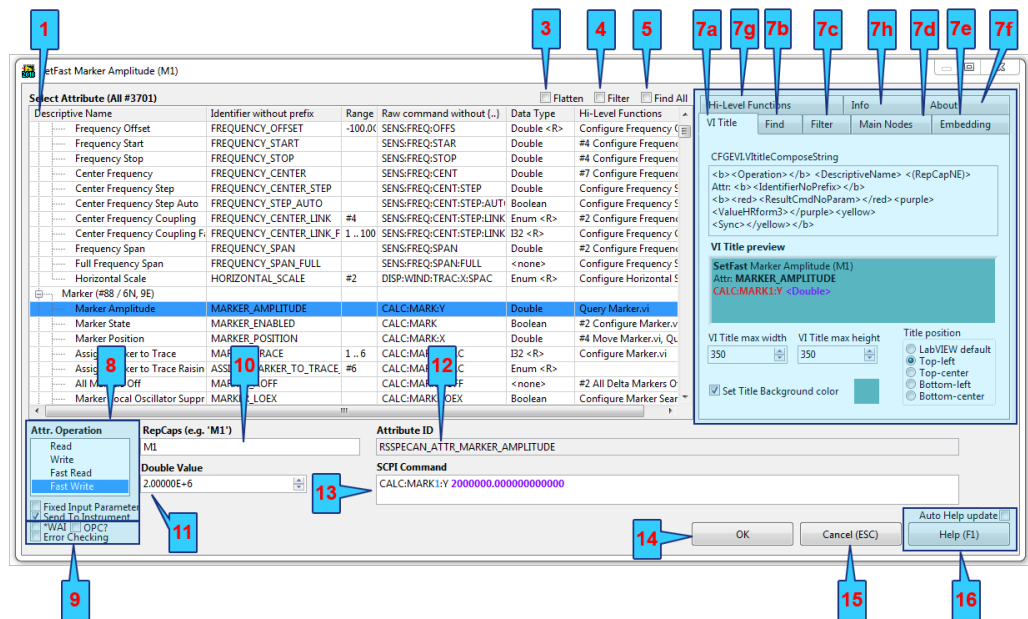

Fig. 5-6: Express VI Configuration panel.
**Find tab** allows you to find an attribute based on **Find Specification** control. Searching of the next item fulfilling the criteria can be done with **Find Next** button or **F3**, or **ENTER** button when focused on one of the string fields. You can see all positive search results in Select Attribute control when checking **5 - Find All** checkbox (figure 5-6). Use the shortcuts e.g. **CTRL+G**, **CTRL+H**, **CTRL+F**, to quickly focus on the string fields.
**Filter tab** allows to only see the attributes in Select Attribute control that fulfill the **Filter Specification**. Main filter switch is the control **4 - Filter** (figure 5-6). It will be automatically checked on when the **Filter Specification** changes from its default value. **Filter specification** control is the same as in **7b - Find Tab**.